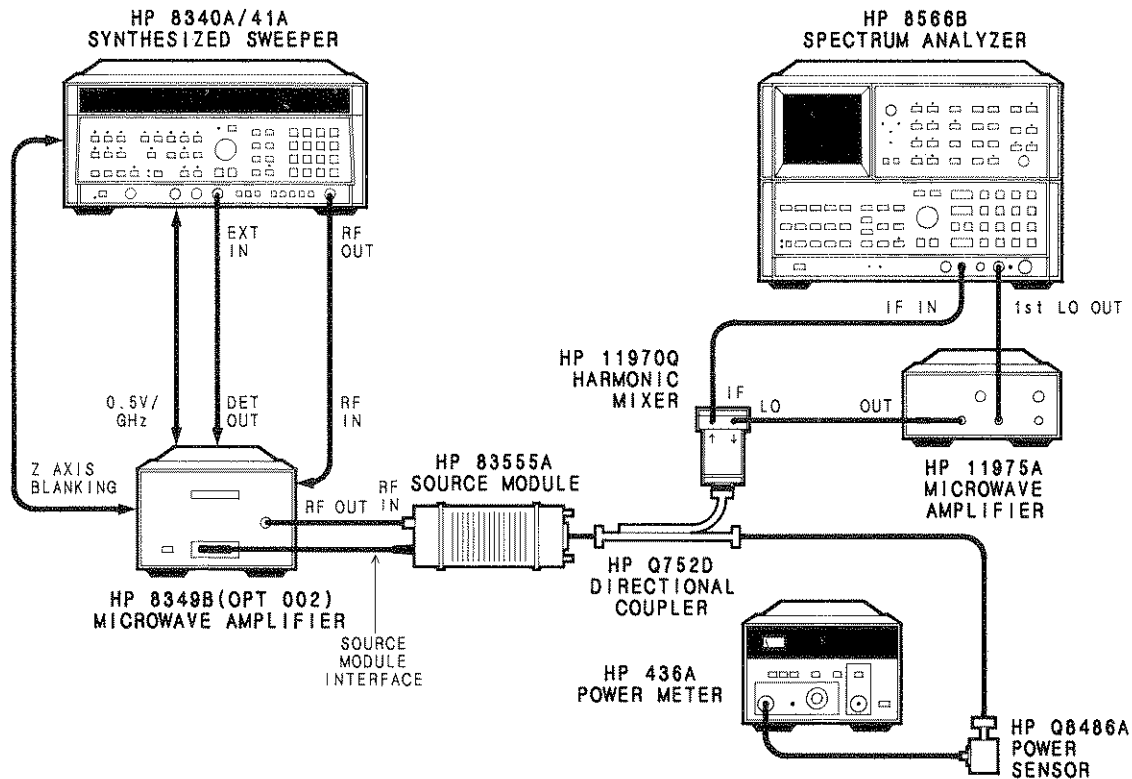

Figure 2-7. Spurious Signals Test Setup
The RF output signal from the HP 8340A/41A/83555A system is tuned from 33.0 to 50.0 GHz and is displayed on a spectrum analyzer to verify that any harmonic spurious signals are at or below their specified levels. The test configuration in Figure 2-7 uses an external harmonic mixer to extend the frequency range of the spectrum analyzer. When this technique is used, the response is not pre-selected and multiple signals are displayed. Each response is examined not only for power relative to the fundamental frequency but whether or not it is a true in-band spurious signal by using the spectrum analyzer's signal identification function.
1. Connect the equipment as shown in Figure 2-7.
Because the test configuration in Figure 2-7 specifies that the external mixer be connected to the coupled arm of a 20 dB directional coupler, the coupled power must also be taken into account when calculating reference level offset. The new equation is as follows: